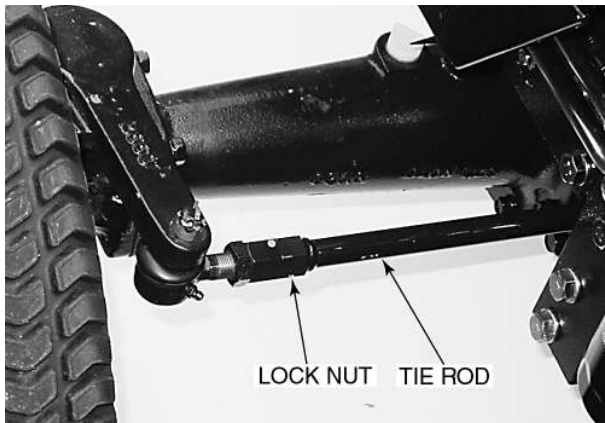

Figure 77 - Checking Toe-In
1. With the front wheels in the straight-ahead position, mark the front of the wheels (not the tires) at wheel hub height, Figure 77.